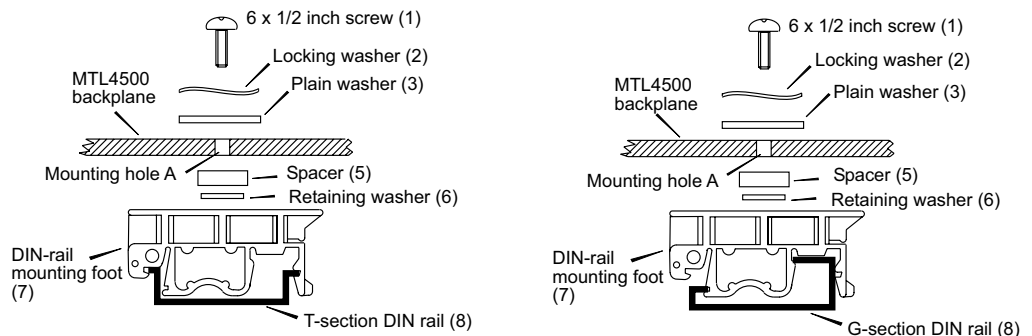

Figure 4.3: Mounting a backplane onto 'T' or 'G' section DIN rail
- b) With reference to Figure 4.3, clip the appropriate number of mounting feet (7) to the DIN rail (8) at centres 'A' (4 for each 4/8-way, 6 for each 16-way and 8 for each 24-way backplane) (Figure 4.3).
- c) Select the appropriate number of No. 6 x 1/2-inch screws (1) and fit each with a locking washer (2) and a plain washer (3) (Figure 4.3).
- e) Fit spacers (5), retaining them with the washers (6) (Figure 4.3).
- f) Locate the assemblies over the mounting feet and attach the screws (1) to the feet (Figure 4.3).